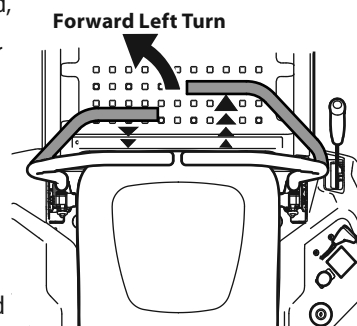

Figure 22
1. To turn to the left, move the left drive control lever rearward of the right drive control lever. See Figure 22.